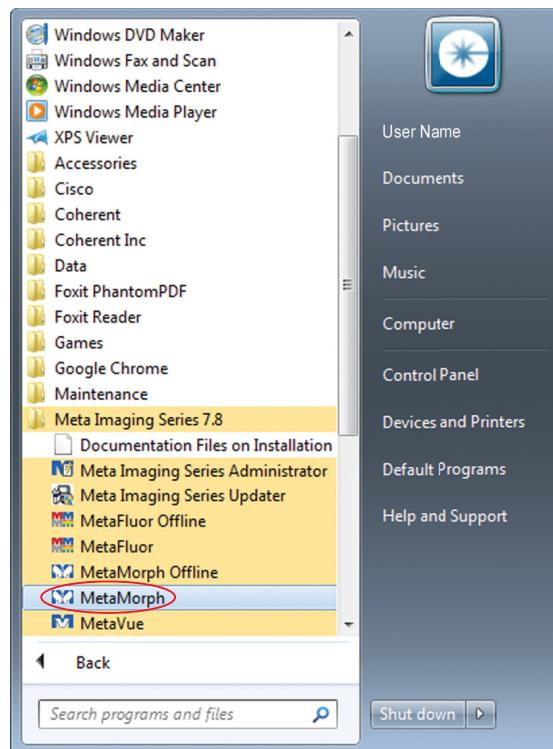

Figure VI-20. Run MetaMorph in the Windows Start Panel
2. Click **Meta Imaging Series 7.8**, and then click **MetaMorph**, as shown in Figure VI-20.